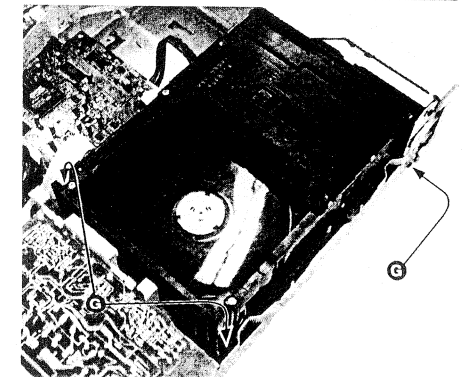

Figure 6
- 3) Loosen 3 screws G, lift up the 5DTC Module's (pos 1103-A) rear and pull the module out towards the rear as per figure 6.